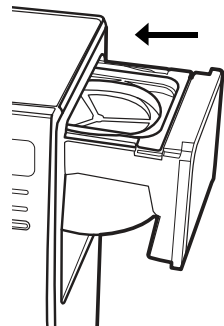

Figure 6
4. Slide the brew basket back into place (Figure 6).